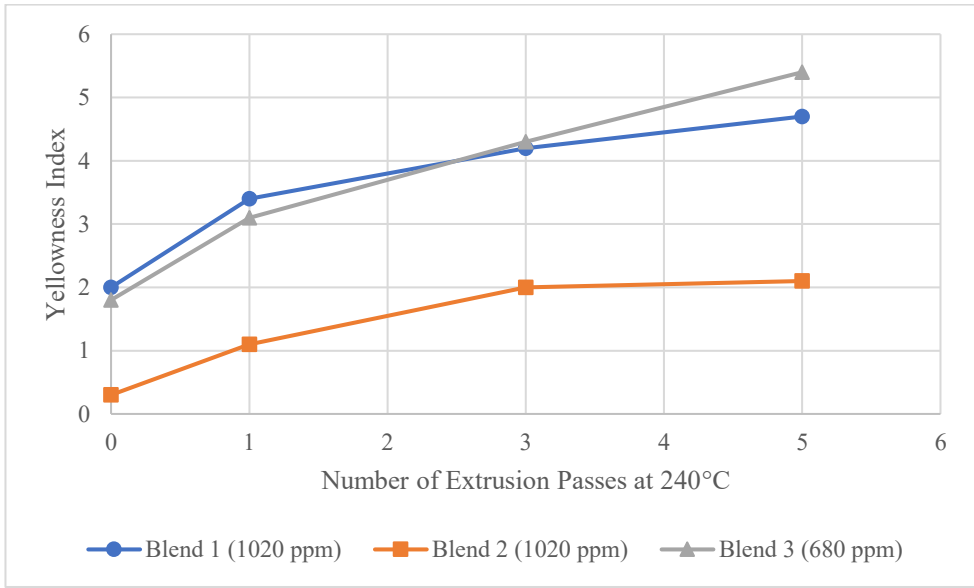

Figure 6. Yellowness index of HDPE in multipass extrusion
Figure 6 shows the color performance of the three blends through multipass extrusion. Color was determined as a yellowness index (YI) in accordance with ASTM E313-96. Blend 1 starts with a YI value of 2.0 and increases to a YI value of 4.7 by the fifth extrusion pass. In contrast, Blend 2 starts with a YI value of 0.3, noticeably lower than the starting color for Blend 1. Additionally, the color at the fifth extrusion pass for Blend 2 is about equivalent to the starting color for Blend 1, showing lower color development. Blend 3 offers color performance similar to Blend 1, with slightly higher color developing after the fifth extrusion pass.